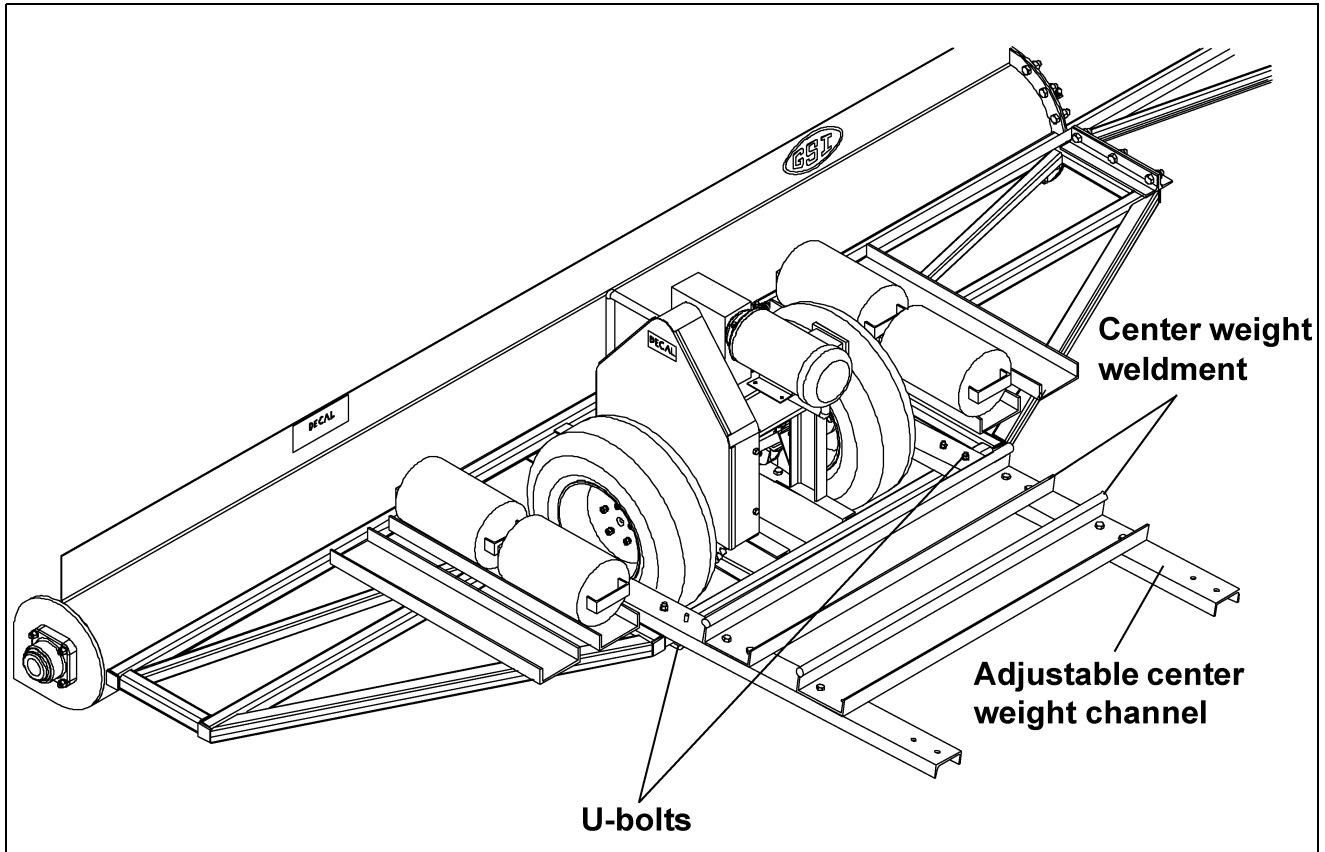

Figure 5T
- B. Attach the center weight weldments to the adjustable center weight channel using eight (8) 1/2" x 1-1/4" bolts, split lock washers and hex nuts. The adjustable center weight has three sets of holes for the center weight weldments to adjust the weights. (See Figure 5T.)